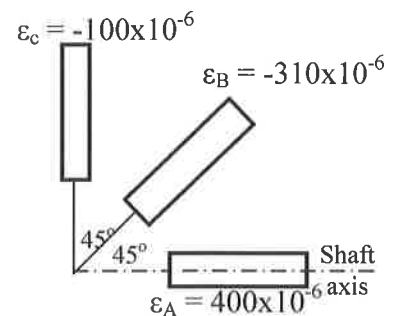

Figure Q6
6. A steel shaft 150 mm diameter is subject to a bending moment M and a torque T. A strain gauge rosette attached to the shaft surface gave the readings indicated in Figure Q6.